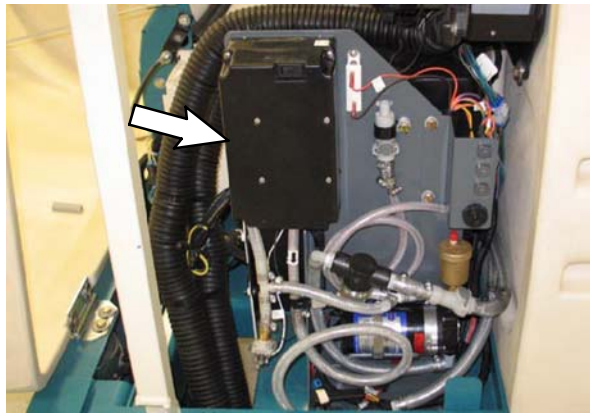

FIG. 16
26. Set the *ec-H2O* assembly into the machine and tighten the three M6 X 1.25 SEMS screws installed in the previous step. Refer to Fig. 16.